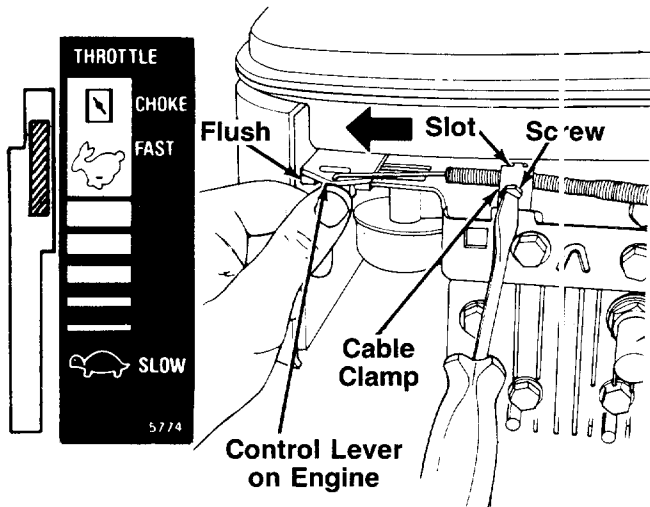

FIGURE 6A.—Models 166R and 176R
1. Push the throttle control lever on the handle all the way forward to **CHOKE**, then back it off **two "clicks"** (approximately 5/16"). See figure 6A.
2. The throttle control cable is attached to the upper handle. Route the throttle control cable under the lower handle, inside the handle mounting bracket and beneath the catcher panel (Model 176R only). Hook the "Z" end of the throttle control cable into the hole in the control lever on the engine. See figure 6A.
3. Using a 5/16" wrench or nutdriver, remove the screw on the cable clamp shown in figure 6A. Slip the control cable under the clamp. Replace the screw (cable should be above the screw), but do not tighten screw (cable must still move freely beneath the clamp). Make certain the tab on the cable clamp is seated into the slot on the engine.
4. Push the control lever on the engine as far toward the **outside** of the engine as it will go. The edge of the control lever should be flush with the bracket on the engine. See figure 6A. Hold the control lever in this position as you tighten the screw on the cable clamp to secure the throttle cable.